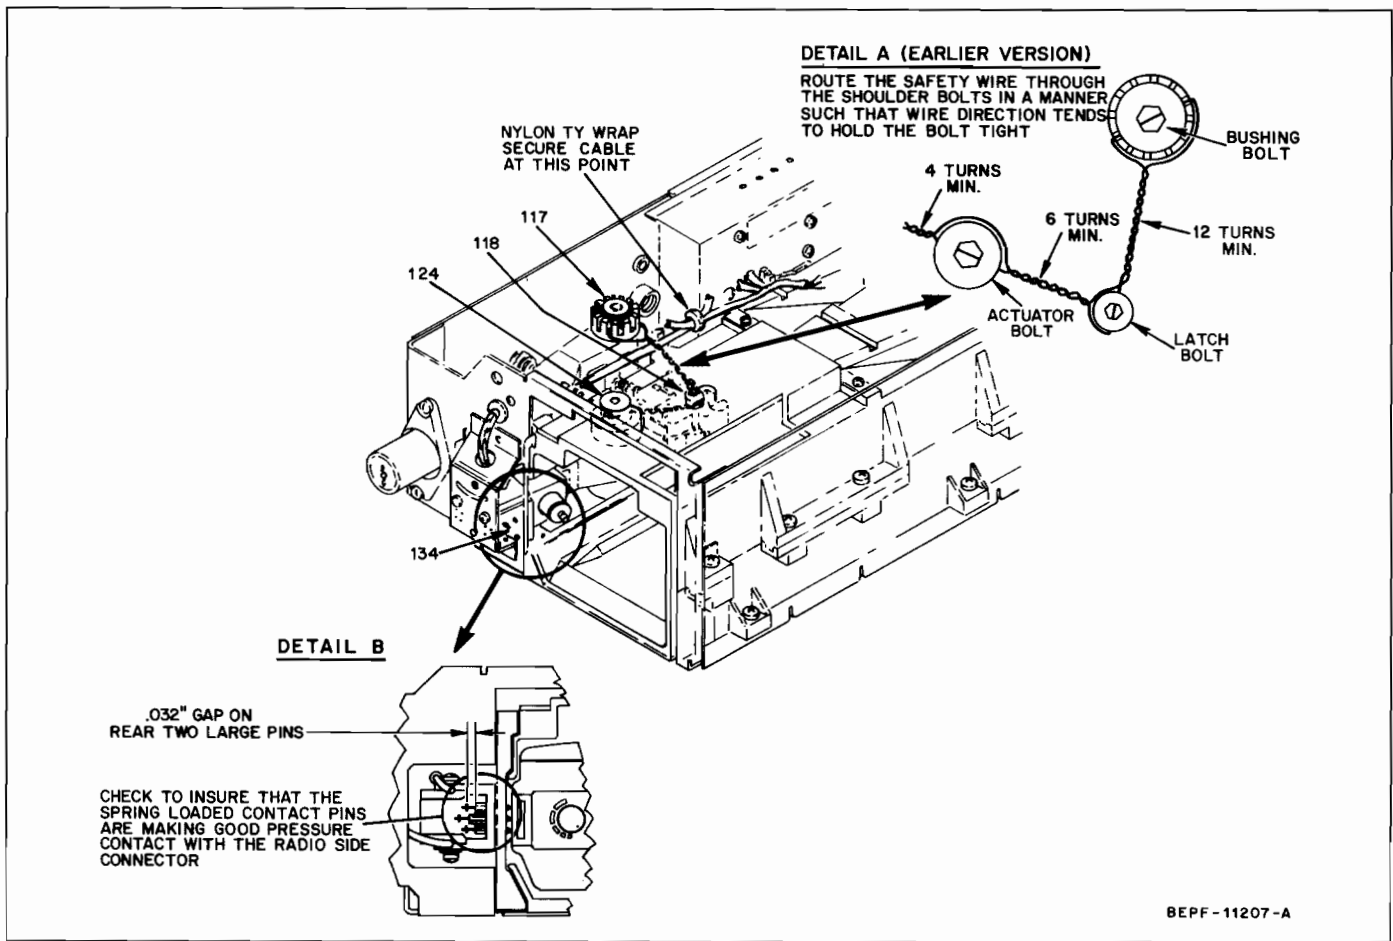

Figure 13. Pawl Arm and Safety Wire Installation Detail
- (1) Remove the housing cover, and loosen the four pocket screws (item 80).
- (2) Insert a universal radio into the console; this should shift the pocket to the far right side of the console within the constraints of the four pocket screws (step 1).
- (3) Tighten the three exposed screws (item 80). One screw under the contact arm is not exposed.
- (4) Eject the radio from the console pocket.
- (5) Tighten the fourth pocket screw.
- (6) Remove safety wire.
- (7) All bolts should be tightened observing the torque specifications (100 in. lbs. for items 117 and 124) as shown in Mechanical Parts Detail.
- (8) Turn the adjustable bushing (item 100), using tool 6605746J01, in both directions and observe the corresponding motion of the actuator pawl arm. Adjust the bushing to the starting position as indicated.
- (9) Reinsert radio with volume turned up to an audible level in an unswitched mode.
- (10) Turn the adjustable bushing **slowly** counterclockwise, until the contact arm is pushed-in sufficiently into the side connector to break electrical contact and disrupt audio signal. Key the PTT switch, and monitor the rf output at the antenna jack.
- (11) Looking through the hole in the front of the chassis (remove L.E.D. board and bracket, item 8); see Figure 13. Check to see if the seven spring-loaded contact pins have all been depressed (the retaining rings should be slightly off the bushings). Continue turning the adjustable bushing slowly counterclockwise, until the two large pins in the back have been depressed .032" (use .032" dia. wire as a gauge).
- (12) If there is not enough adjustment left in the bushing due to wear, replace the worn pawl arm, actuator arm, or both, as necessary.
- (13) Noting the positions of the two safety wire holes in the shoulder bolt (Part No. 0305126F13), determine which hole most nearly lines up with a slot in the adjustable bushing. Turn the bushing in the direction required to better align the slot with the hole.
- (14) Thread the safety wire through the slot in the bushing and the hole in the bolt to prevent the bushing from turning.
- (15) Check for intermittent contact by pushing the radio to the far right of the pocket and try pulling the contact arm away from the side connector of the radio. If the contact is intermittent, tighten the bushing (counterclockwise) to align the other hole with the nearest slot, and insert the safety wire.
- (16) Eject and reinsert the radio several times, checking for smooth operation. If the insertion force is too high, (50 lbs. max.) or if the radio will not go in at all, remove the safety wire, turn the adjustable bushing back (clockwise) to align the other hole with the nearest slot; insert the safety wire, see step 15; and repeat steps 16 and 17, making observations for intermittent or excessive insertion force.
- (17) If the console under test has had the safety wire installed, then proceed to step 21; otherwise proceed to step 19.
- (18) Remove and discard the wire clip (item 129) located at the rear of the actuator contact arm (item 132). Do not confuse this with the wire clip located at the front of the actuator contact arm (see Figure 13).
- (19) Using a nylon cable strap, attach the cable harness of step 19 (as shown in Figure 13).